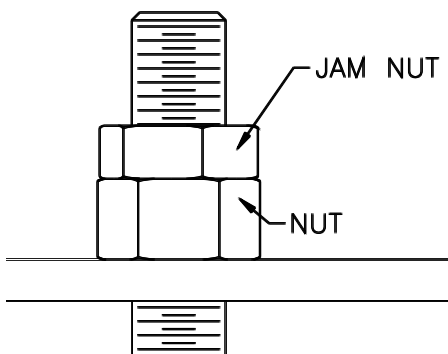

Fig. 8b – Jam Nut
- 26) Install the hex and jam nut as shown in **Fig. 8b**.
34) Uncoil Idler side hose and route through the Idler Side column extension as shown in **Fig. 13a**, taking care to avoid the synchronizing cables and hydraulic cylinder path. Remove slack and tighten all 3 clamps. Route hose across overhead avoiding the synchronizing cables and down through the Power Side column extension as seen in **Fig 8b**. Do Not Tighten Clamps at this time.